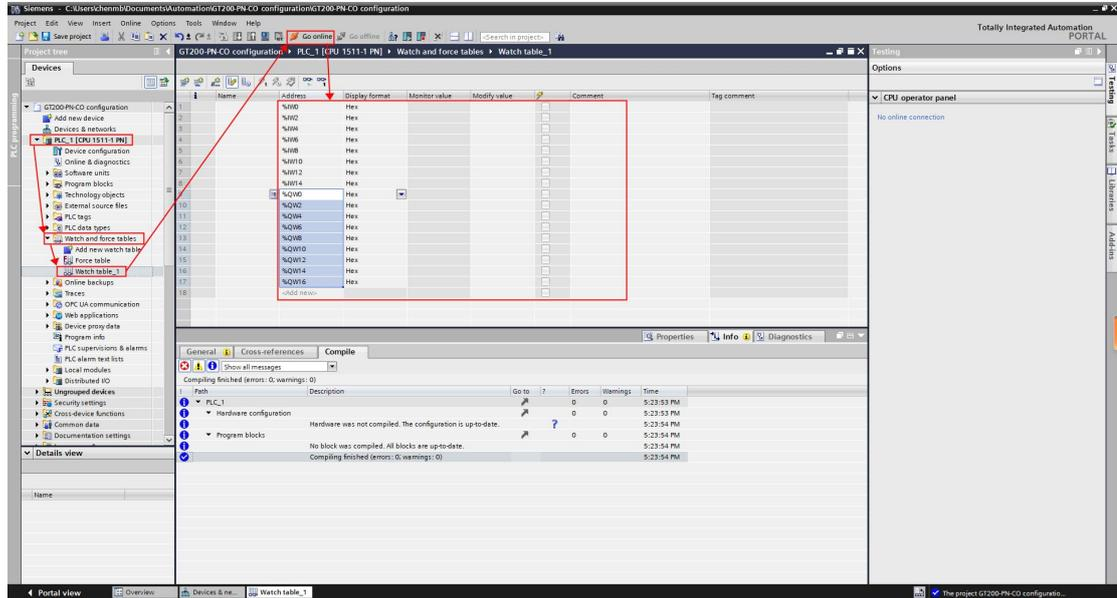

Figure 17: Monitor PLC data
3.9 After the PLC is connected to the device, you can double-click "PLC_1[CPU1511-1PN]>Watch and force tables>Watch table_1 on the left, and click "Go Online" above, add the data address to be monitored, and monitor the detailed data information. As shown in Figure 17.